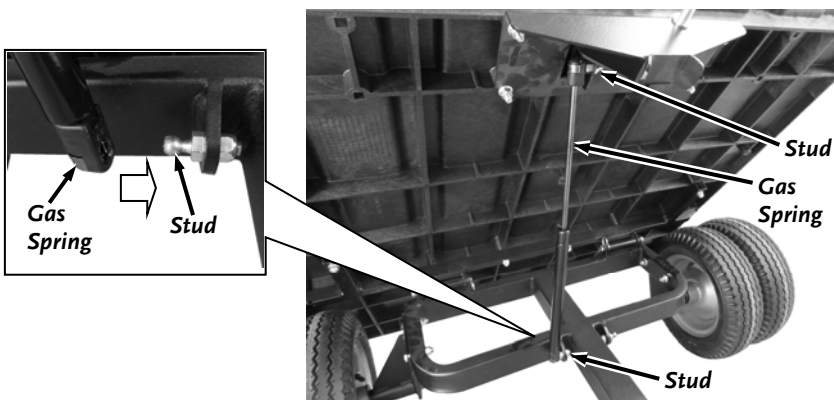

Figure 13
2. Insert the right side Gas Spring onto the Studs by pressing the holes in the ends of the Gas Spring over the Studs. They will snap into place. (**Figure 13**).